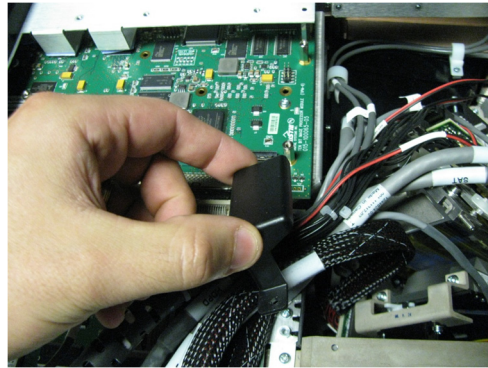

Figure 4 Remove Plastic Harness Bracket
5. Remove (2) screws holding the plastic harness bracket in place. **NOTE:** Pay attention to the orientation of the bracket before removal and set aside to reinstall later. See Figure 4 Remove Plastic Harness Bracket.